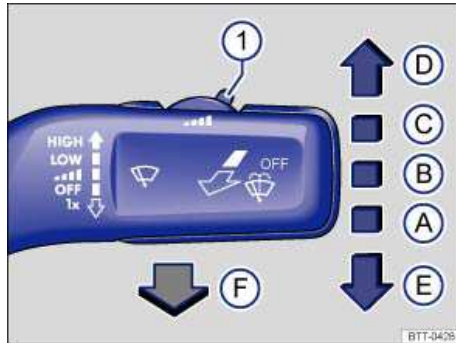

Fig. 76 Operating the front windshield wiper.
- Press the windshield wiper lever down briefly ⇒ fig. 76 \(E\) when the ignition is off.
Carefully fold the wiper arms back onto the windshield before driving! Switch the ignition on and press the windshield wiper lever down briefly ⇒ fig. 76 \(E\). The wiper arms move back to their original position.